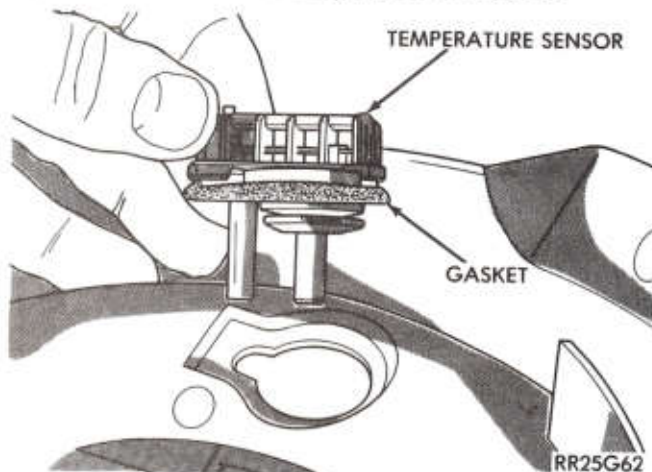

Fig. 13—Servicing Sensor (Fuel Injected Engines)
- (1) Position gasket on air cleaner housing and install sensor (Figs. 13 and 14).
- (2) Supporting sensor on outer diameter, install new retainer clips securely being sure gasket is compressed to form an air seal. **No attempt should be made to adjust sensor.**
- (3) Reconnect Vacuum hoses to Temperature Sensor.